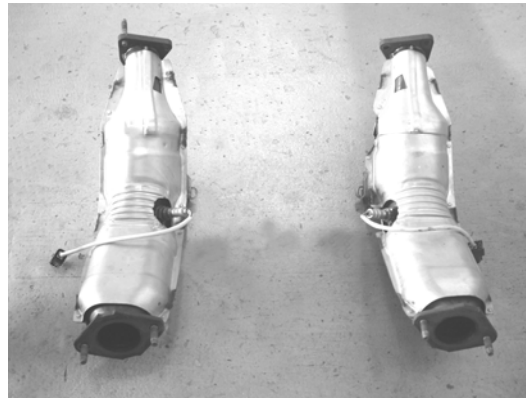

Figure 4
7. Unbolt both flanges connecting the exhaust manifolds to the catalytic converters and then remove each catalytic converter shown in figure 4 from the vehicle. Place the hardware to the side for use during the installation of your headers.